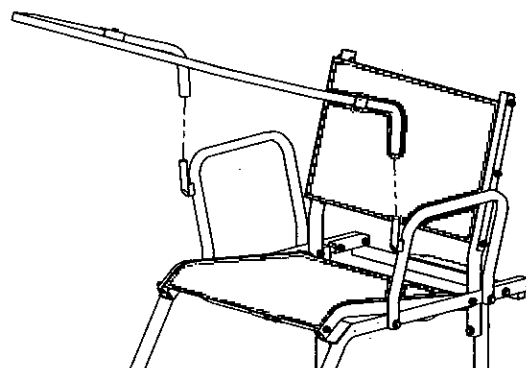
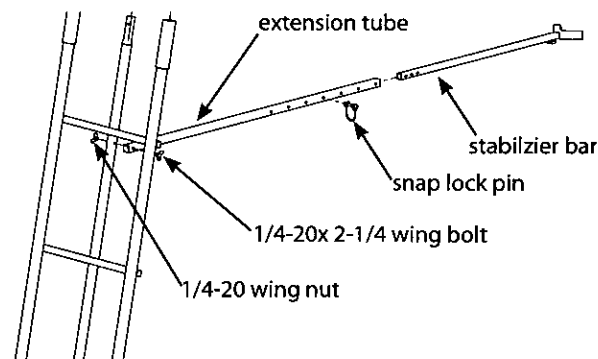

Figure 13
Figure 14
19. a. Attach the removable shooting rail by setting rail down over studs provided on armrests **SEE FIGURE 13.** Lubrication is recommended to prevent binding and noise.
b. Attach the (2) provided 9" and (1) provided 47" camo foam pads to the armrests and shooting rail by wrapping around tubing and attaching Velcro® together.
20. a. Attach the stabilizer bar extension tube (48053) to the second ladder section mounting hole using (1) provided 1/4-20 x 2-1/4" wing bolt and wing nut. **SEE FIGURE 14.**
b. Slide the stabilizer bar (48052) into the extension tube and attach the two pieces together using (1) provided spring lock pin. Spring lock pin must go through both the extension tube and stabilizer bar at appropriate hole to achieve desired distance from tree. Adjustment in length may be needed when ladder is upright later in instructions. **SEE FIGURE 14.**